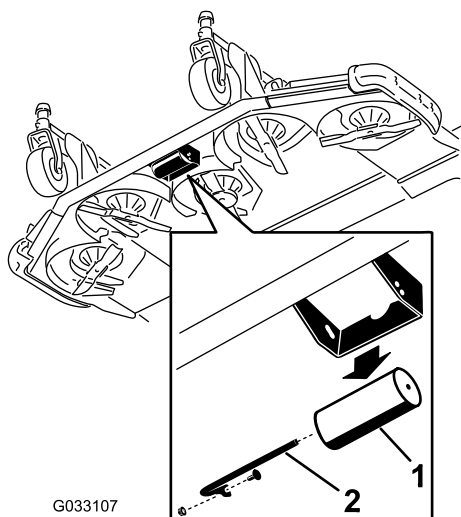

Figure 24
1. Remove the roller shaft, screw, and nut securing the roller to the deck bracket (Figure 24).